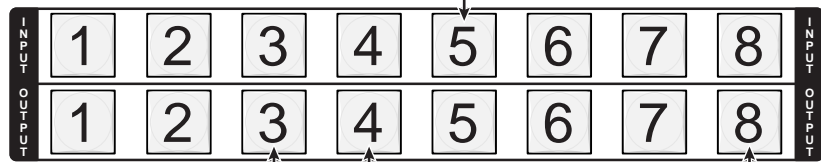

Figure 3-10 — Select an input
3. Press and release the input 5 button (figure 3-10).